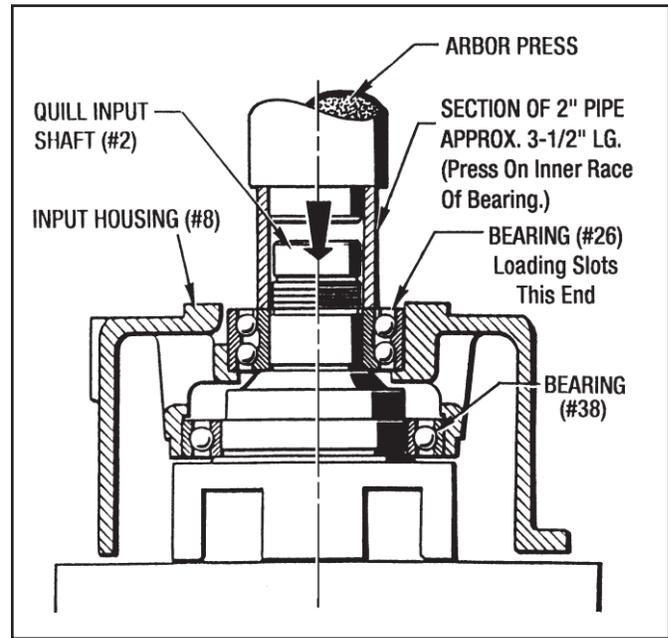

Figure 9.2- Installing Quill Input Shaft
3. Set the Input Housing into an arbor press as shown in Figure 9.2. Place the Bearing (#26) onto the Input Shaft with the bearing loading slots up. With an appropriate sized tube, as shown, press on the inner race of the bearing until it bottoms out. **(Do not press on the bearing cage of the outer race.)**